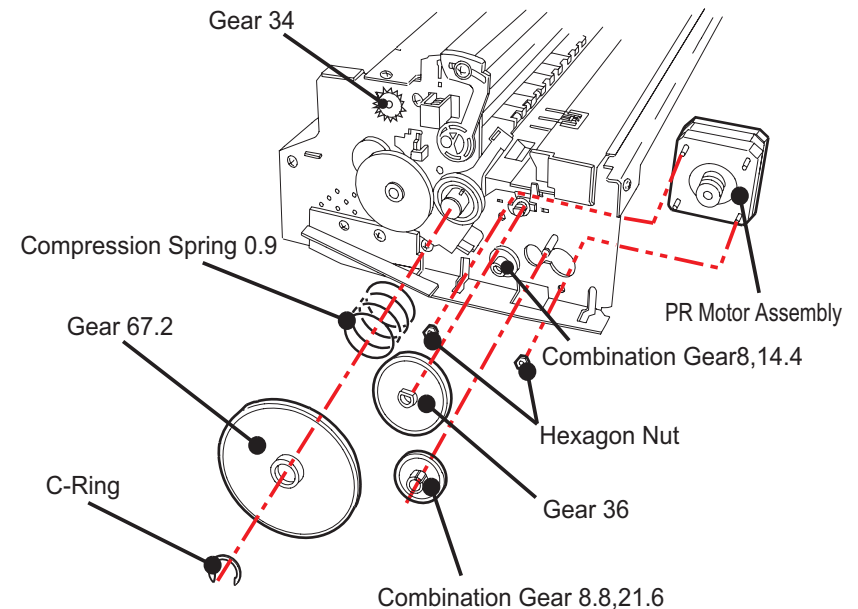
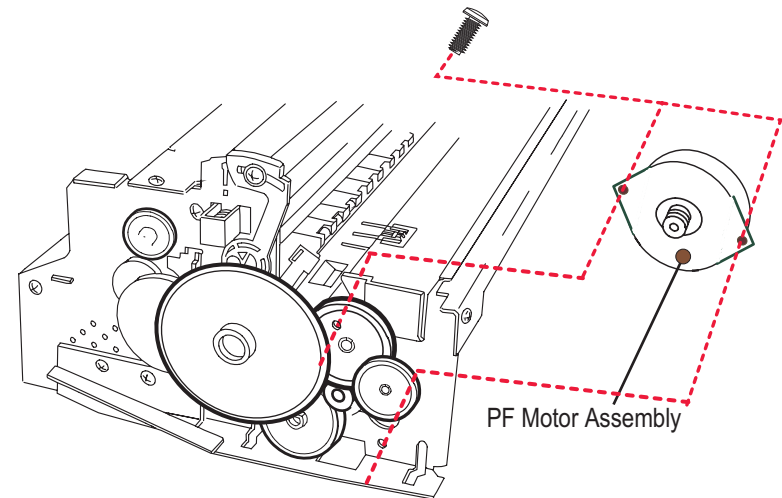

Figure 4-13.
Figure 4-14. Removing the PF Motor Assembly (Stylus COLOR 440, 640)
6. Remove the 2 hexagon nuts that secure the PF motor to the frame. Slide the PF motor toward the front of the printer so that the motor's pinion gear aligns with the larger hole in the frame, and remove the PF motor. (See Figure 4-13.)
5. Remove the 2 screws securing the PF motor to the frame. (See Figure 4-14.) Slide the PF motor toward the front of the printer so that the motor's pinion gear aligns with the larger hole in the frame, and remove the PF motor. (See Figure 4-13.)